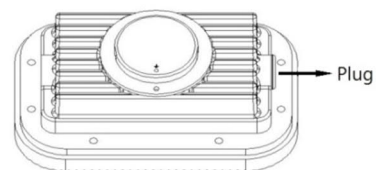

Figure 3
- Loosen the Plug from the Tank and remove it. (Figure 3)